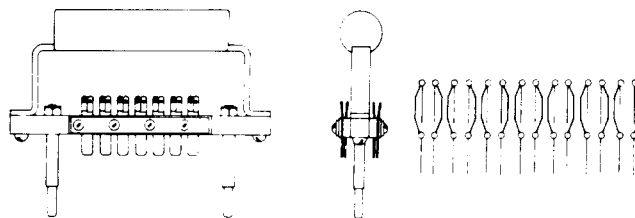

Fig. 8—187 Plug
2.10 **187:** The 187 plug (A&M Only) (Fig. 8) is equipped with a wooden handle to facilitate removal of the plug from the jack. The 187 plug is used with the 283 jack in either of two positions, and is provided with two guide posts for centering the plug in the jack. The plug is used in the panel dial line